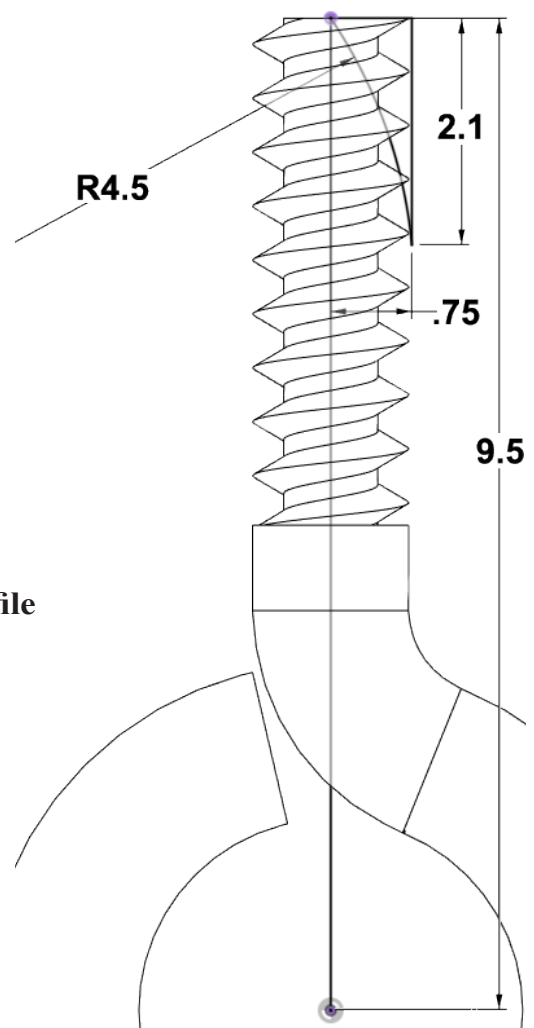

Fig. 17
Step 6. Click **Dimension**  (D) in the sketch area of toolbar.
Step 7. Add dimensions, **Fig. 17**.